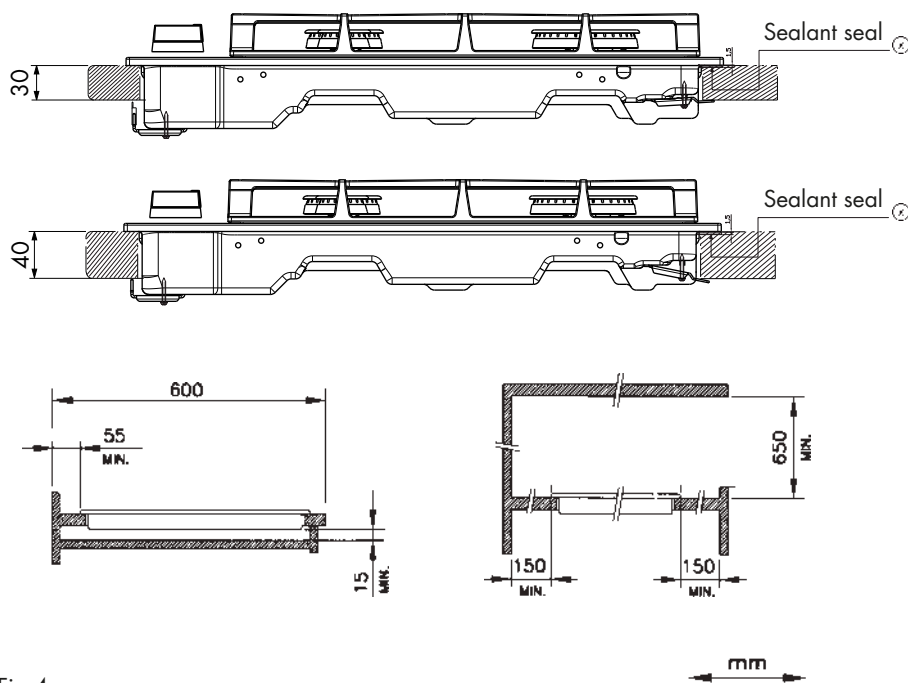

Fig 4
(Fig. 4). The appliance can be fitted into a working area as illustrated on the corresponding figure. Before positioning the hob, fit the seal (X) around the entire periphery of the hole cut in the worktop.